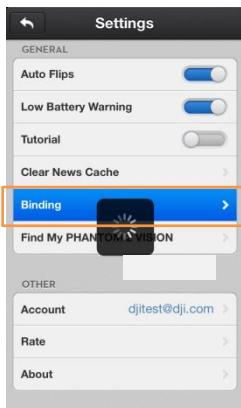
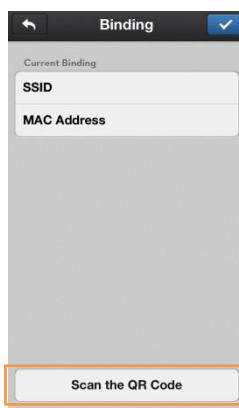

Fig.1
Fig.2 (QR code is only for example.)
5. (Fig.1) Run the DJI VISION App->Settings->General->Binding. (Fig.2) Select 'Scan the QR Code' to scan the camera QR code on the product packaging. (Fig.3) Get the camera SSID (E.g. FC200_Oxxxx) and the MAC address, select the tick on the top right corner. The range extender should automatically restart. The binding procedure is now complete.